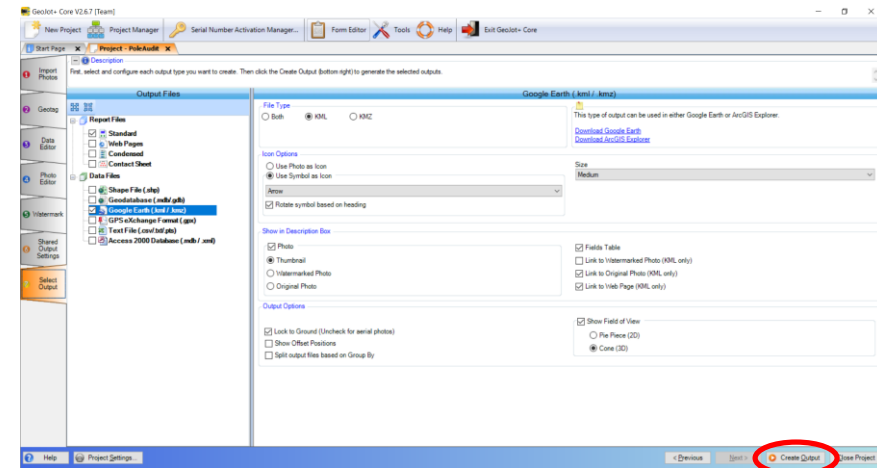

Figure 23
23. On the Select Output tab, choose which file formats to generate and tap the **Create Output** button (Figure 23). These files can then be imported into design software or a GIS